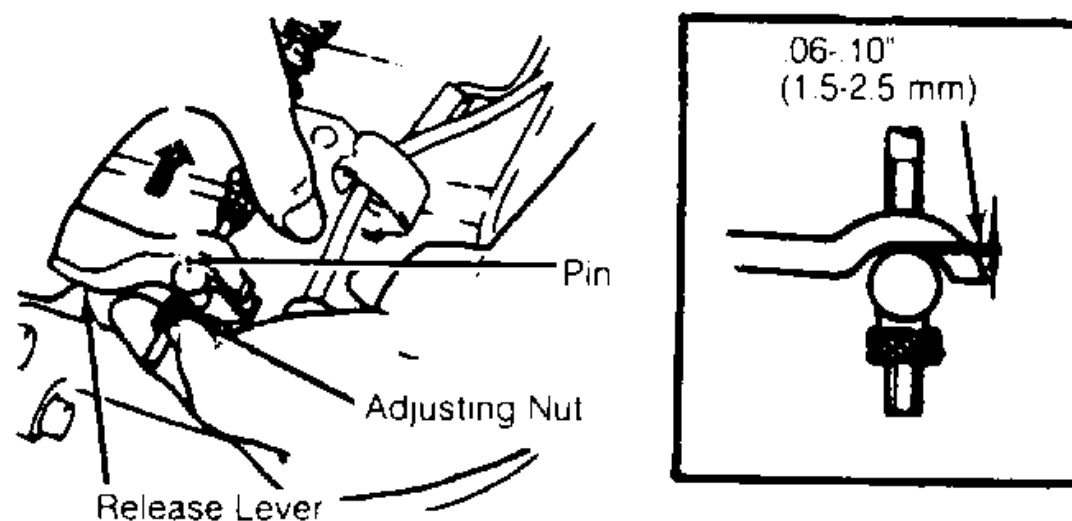

Fig. 2: Checking Release Lever Clearance
2. If free play is not within specification, rotate clutch cable adjustment nut at release lever to obtain correct pedal free play. See Fig. 2 .